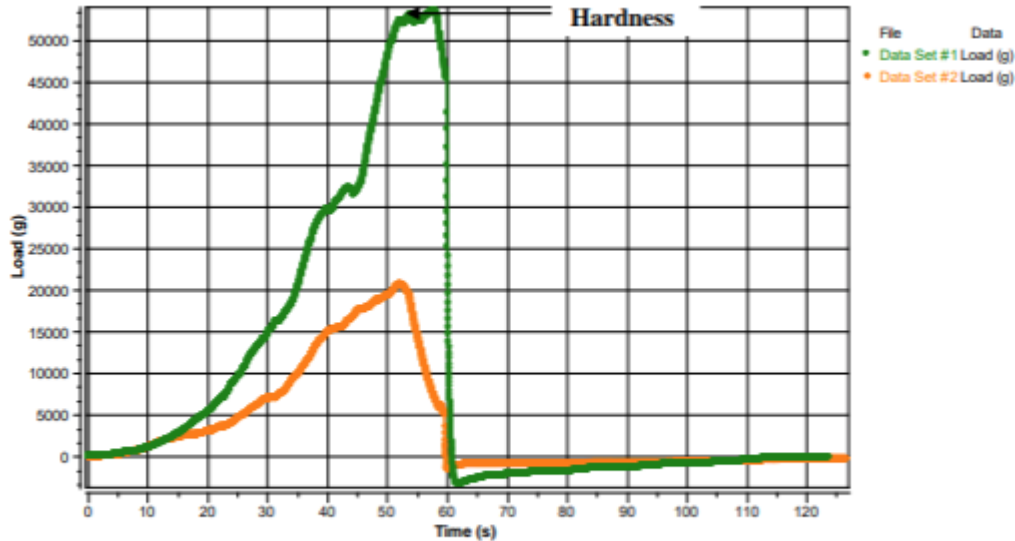

Figure 1
- Load vs. Time Graph (Fig. 1): Shows firmness across different cooking times.